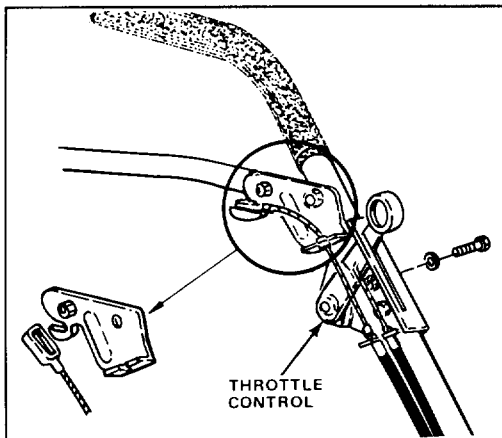

Figure 3
1. Route throttle control under lower handle, hook traction cable onto traction control lever and install control against inside of upper handle with (2) (1/4-20 x 1-3/8" lg.) capscrews and curved washers (Fig. 3).